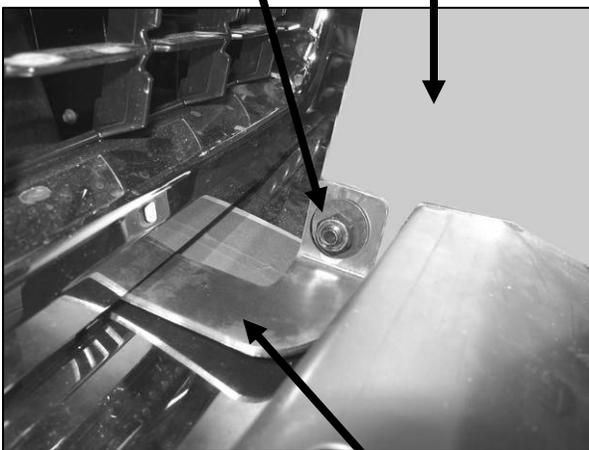

Figure 6
- Attach Grille Guard to Top Brackets using the included (2) 10mm x 30mm Button Allen Head Bolts, (2) 10mm Nylock Nuts, and (2) 10mm Flat Washers (Fig 6). **NOTE:** Insert Button Head bolt from the outer side of plate. Do not tighten at this time.